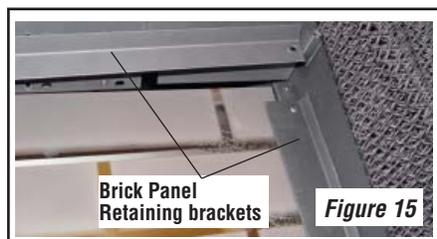

Figure 15
- c. Remove the top brick panel retaining bracket (see **Figure 15**). Be very careful to hold the bracket when removing the 2 screws to ensure the bracket doesn't fall.
- d. Remove the left and right side brick panel retaining brackets (see **Figure 15**). Be very careful to hold the bracket when removing. Remove the bottom screw first to avoid the frame falling down after both screws are removed.